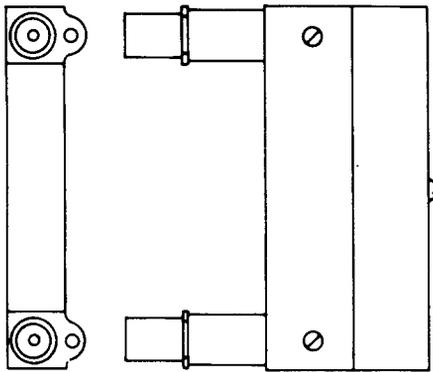

Fig. 5—555A Jack
**2.05 555A:** This coaxial twin-type jack (Fig. 5) has coaxially arranged inner and outer contacts. The outer contacts are connected together. A removable coverplate is furnished for use in covering an unused cable entrance hole. The jack construction